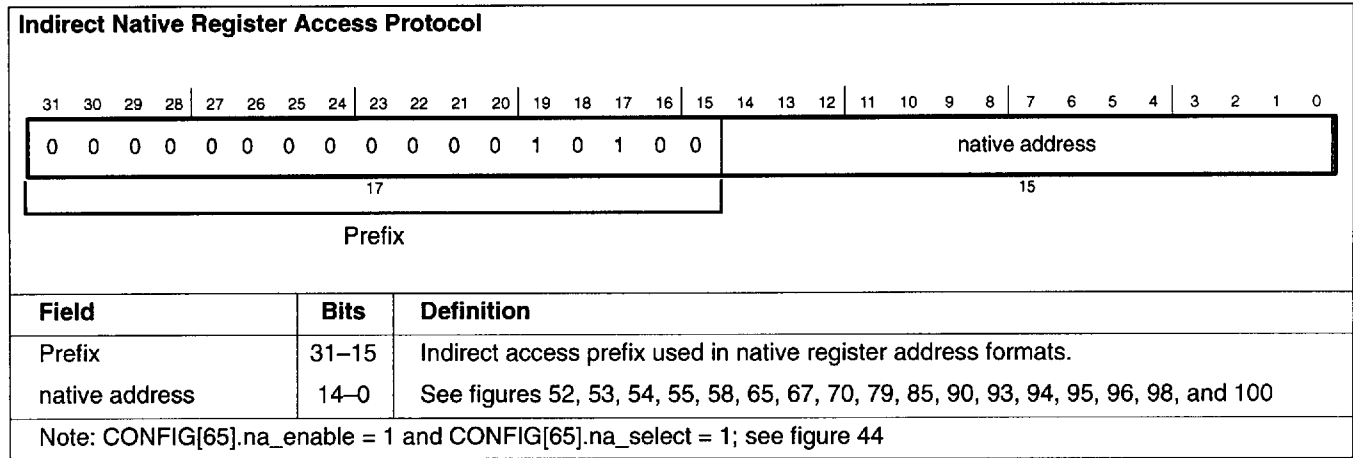

Figure 50. Indirect native access protocol
Figure 50 shows the indirect native register access protocols. With this protocol the H, B, and b swapping are specified by CONFIG[65].H, CONFIG[65].B, and CONFIG[65].b.
* See figures 50 and 51.